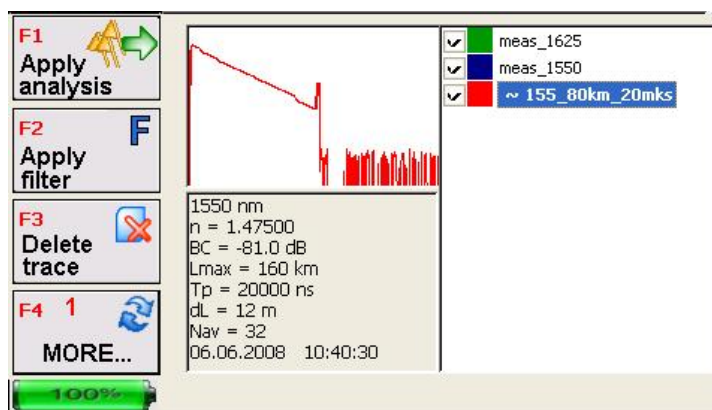

Figure 7.18
Click on the button **F4** →  in the main program’s window of the OTDR will open the window shown in **Figure 7.18**. The buttons of this window perform first row functions for work with traces. They allow:
The active trace is identified by the ‘ ~ ’ symbol near its name in the list of the window “Traces”. Refer Figure 7.18 above.
7.6.10.3 To remove a trace from the list, press the button **F3** →  (see **Figure 7.18**).
7.6.11.1 When the button **F1**→ (see **Figure 7.18**) is pressed, the program:
To perform filtering, click the button **F2** →  (see **Figure 7.18**), the
view this information, press the button **F3** →  of the second row of functions in the window “Traces” (see **Figure 7.18**). The button being clicked, a new row of buttons and the window with four tabs - see **Figure 7.20**.